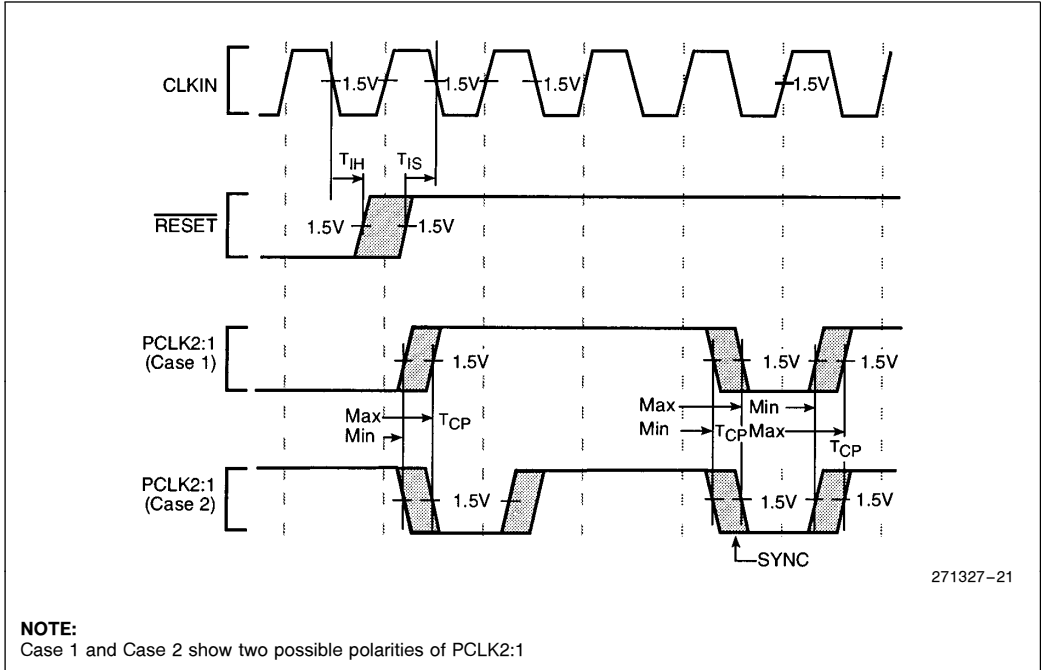

Figure 21. Clock Synchronization in the 2-x Clock Mode
- In 2-x clock mode,  $\overline{RESET}$  is an asynchronous input which has no required setup and hold time for proper operation. However, to guarantee the device exits reset synchronized to a particular clock edge, the  $\overline{RESET}$  pin must meet setup and hold times to the falling edge of the CLKIN. (See Figure 21).